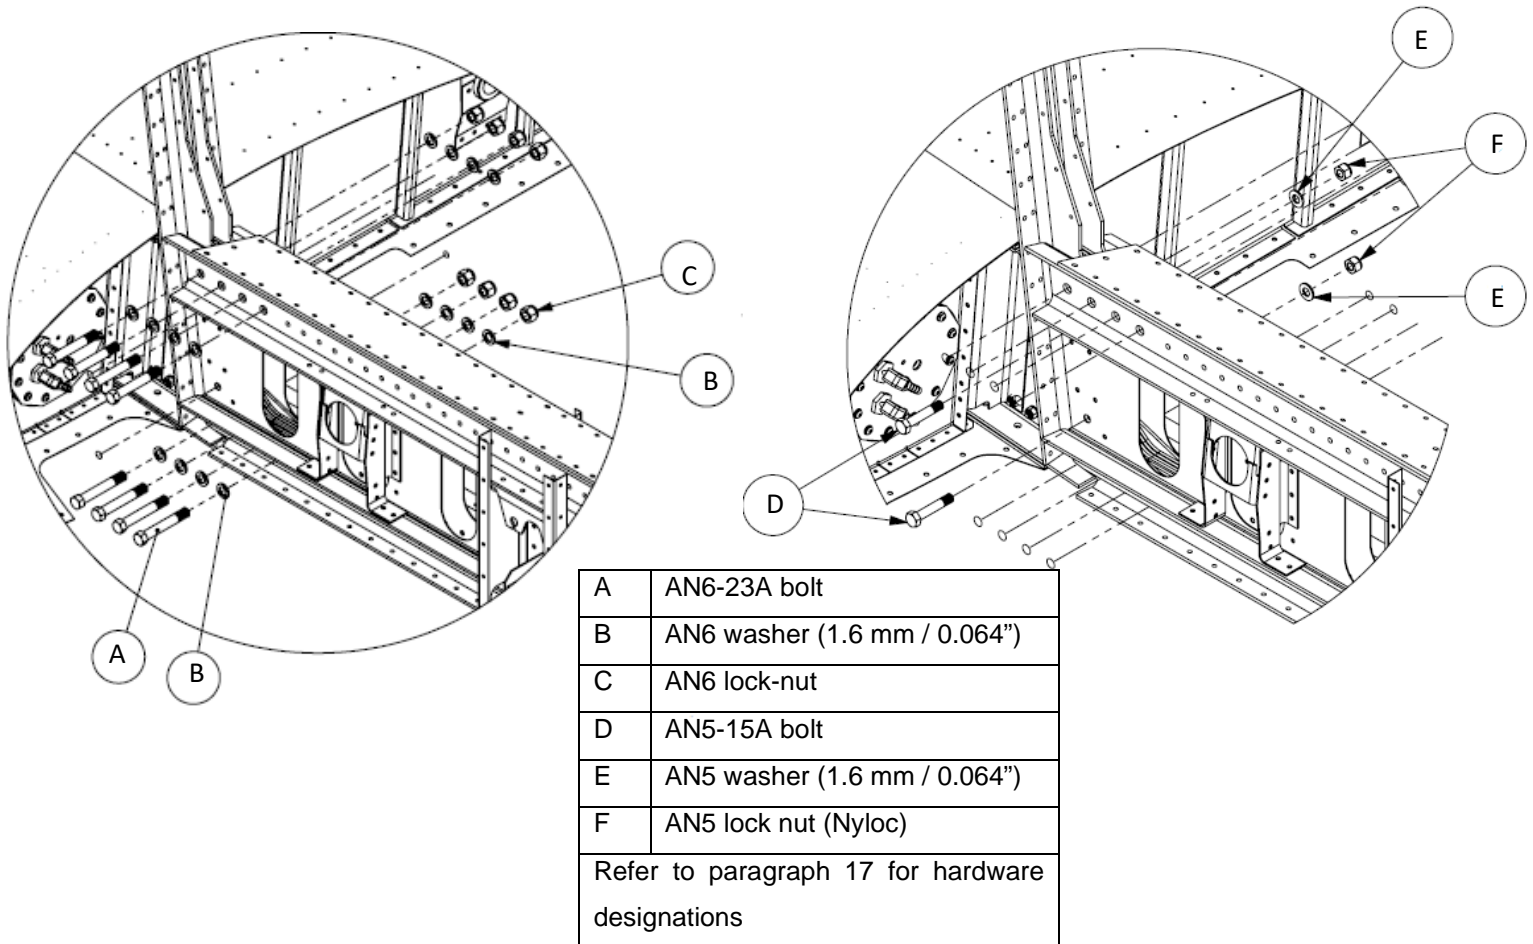

Figure 5: Front wing spar to fuselage connection.
- Tighten the main (front) spar bolts to the recommended value (refer to paragraph 1.5.2). Observe the correct placement of washers (refer to Figure 5).